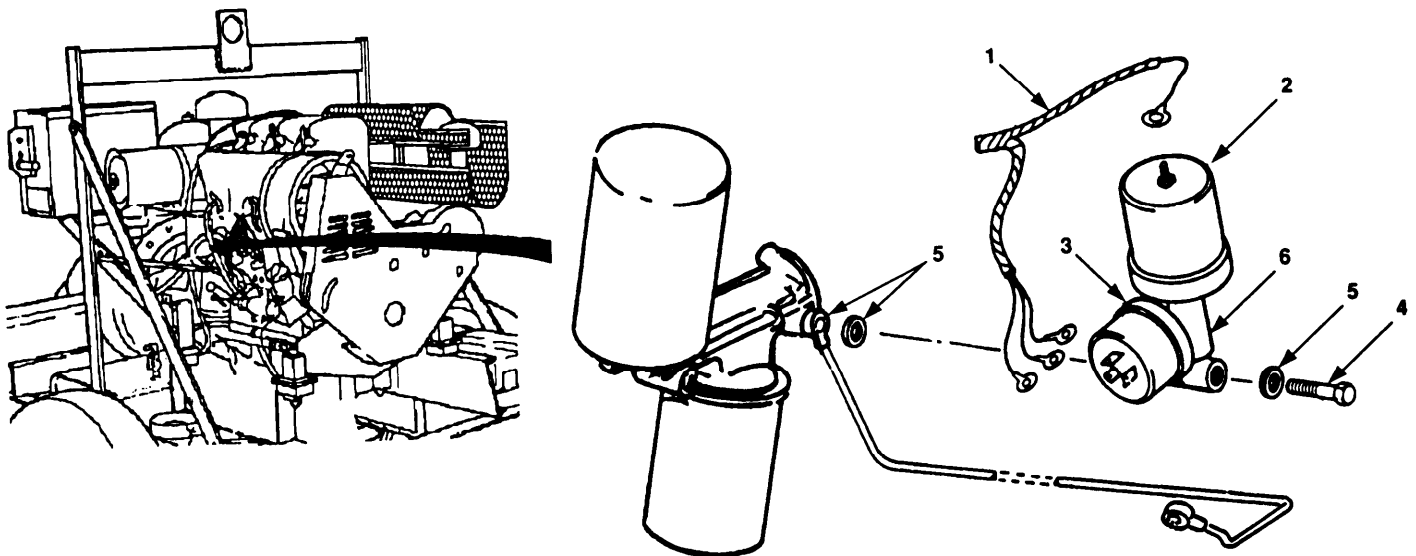

Figure 4-29. Low Pressure Switch and Oil Pressure Sending Unit Maintenance.
- a. Tag and disconnect wires (figure 4-29, 1) from low oil pressure switch (2) and oil pressure sending unit (3).
- b. Remove banjo bolt (4) and washers (5).
- c. Remove low oil pressure switch (2) and oil pressure sending unit (3) assembly.
- d. Remove low oil pressure switch (2) from tee (6).
- e. Remove low oil pressure sending unit (3) from tee (6).
- b. Install low oil pressure sending unit (3) to tee (6).
- c. Install low oil pressure switch (2) to tee (6).
- d. Using washers (5) and banjo bolt (4), install oil pressure assembly.
- e. Connect wires (1) to low oil pressure switch (2) and oil pressure sending unit (3). Remove tags.